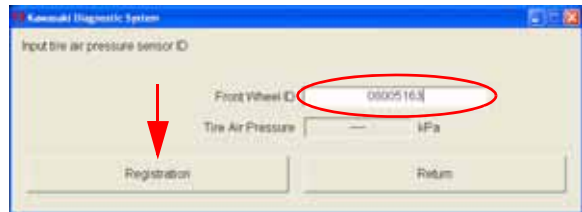

Fig. 5-23 TPMS ID Registration
- o When Fig. 5-23 appears, input the new TPMS ID and select **Registration**.